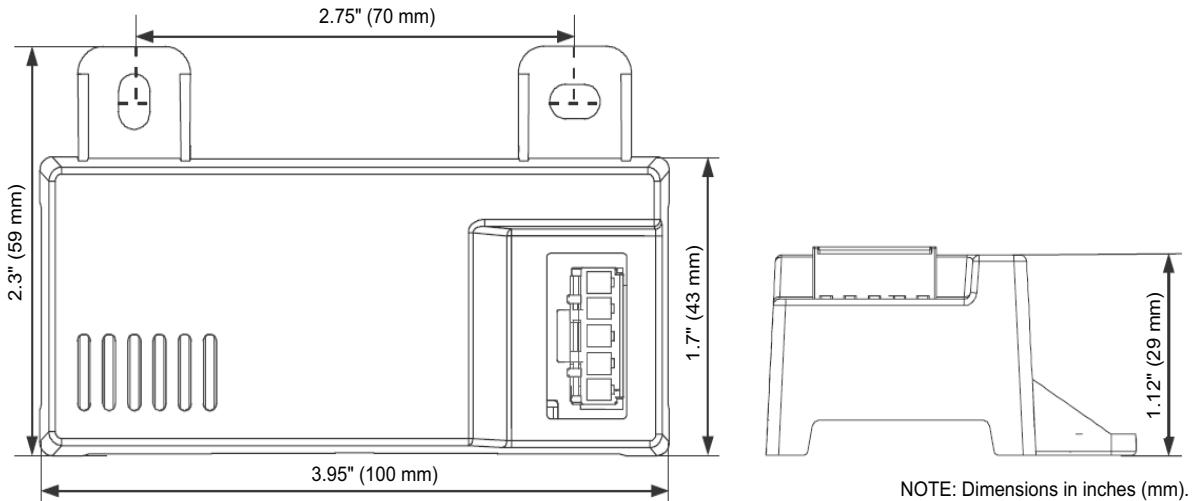
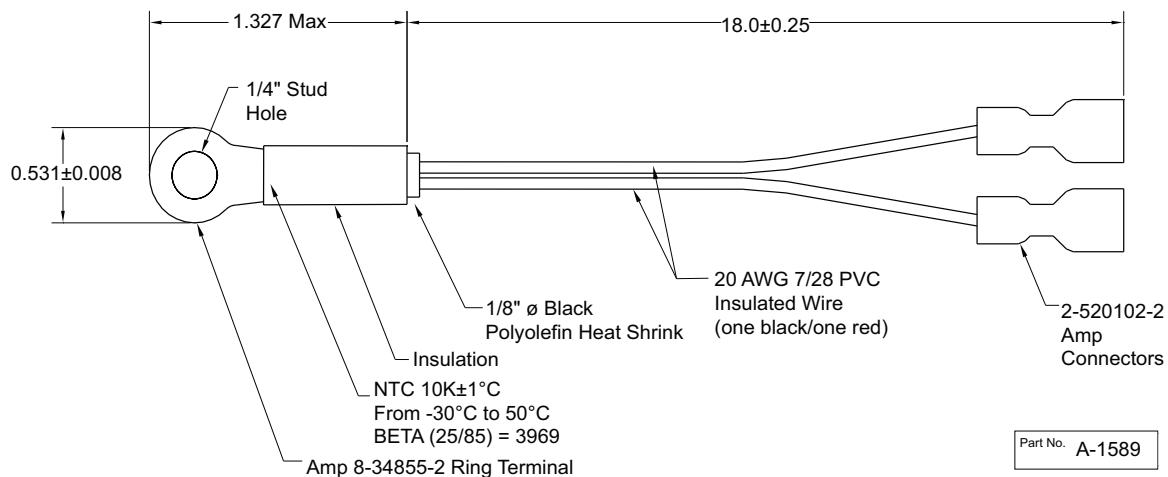
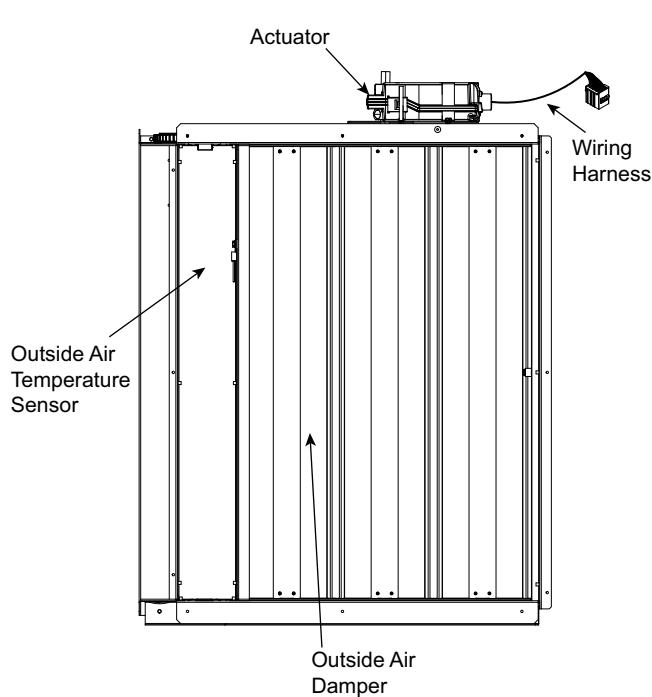

Fig. 86 — HH57LW001 Dimensional, Connection and Switching Information
Fig. 87 — HH79NZ039 Dry Bulb and Mixed Air Sensor Wiring
Fig. 88 — EconomizerONE Component Locations (CRECOMZR108A00 Shown)
When using the HH57LW001 enthalpy sensor (see Fig. 86) for outside air changeover, the existing HH79NZ039 dry bulb sensor (see Fig. 87) must be removed. The enthalpy sensor will be mounted in the same location as the dry bulb sensor (see Fig. 88). When the enthalpy sensor's OA (Outside Air) temperature, enthalpy, and dew point are below their respective setpoints, the outside air can be used for free cooling. When any of these are above the setpoint, free cooling will not be available. Enthalpy setpoints are configurable and create an enthalpy boundary according to the user's input. For additional details, see Fig. 89-90 and Table 30.
The optional enthalpy control sensor (P/N: HH57LW001) communicates with the POL224 economizer controller using the 5-wire harness, 48TC005213. The HH57LW001 sensor can be used as a single outside air enthalpy, a differential return enthalpy, or a differential return temperature sensor. Refer to the base unit control wiring diagrams found earlier in this book to wire the HH57LW001 enthalpy sensor for each option. Use Fig. 86 and Table 32 on page 72 to locate the wiring terminals for each enthalpy control sensor.
Economizers are shipped standard with an HH79NZ039 outside air dry bulb sensor (see Fig. 87). System default setting (high temp limit) is 63°F (17°C) and has a range of 48°F to 80°F (9°C to 27°C). Sensor is factory installed on economizer.
If installing the optional HH57LW001 enthalpy sensor, the HH79NZ039 dry bulb outside air sensor must first be removed. Wire sensor to harness 48TC005213 and the (5) wires from the harness to the EconomizerONE harness in the return air chamber. Harness 48TC005213 has a 5-pin plug that connects directly to the HH57LW001 enthalpy sensor. Refer to the base unit control wiring diagrams earlier in this book for wiring connections. Refer to Fig. 86 and Table 32.